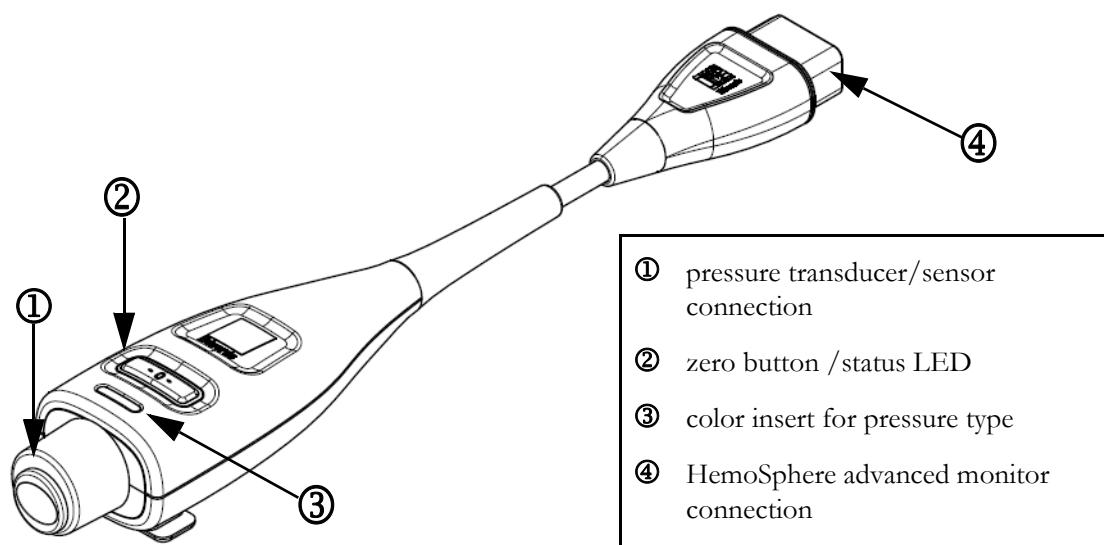

Figure 10-1 HemoSphere pressure cable
The HemoSphere pressure cable acquires and processes a single pressure signal from a compatible Edwards disposable pressure transducers (DPT), such as the TruWave DPT, or a FloTrac sensor. A FloTrac or Acumen IQ sensor connects to an existing arterial catheter to provide minimally invasive hemodynamic parameters. A TruWave transducer can connect to any compatible pressure monitoring catheter to provide location based intravascular pressure. Refer to the directions for use provided with each catheter for specific instructions on catheter placement and use, and for relevant warnings, cautions and notes. The HemoSphere pressure cable can be monitored through two technology monitoring modes based on the paired sensor/transducer: **FloTrac** or **Acumen IQ** sensor monitoring mode or **Swan-Ganz** catheter monitoring mode. The monitoring mode appears on the top of the navigation bar (see figure 5-2 on page 80). The appearance and connection points for the HemoSphere pressure cable are shown in figure 10-1.
Pressure Type Color Insert. If desired, the appropriate color insert can be used on the pressure cable to indicate the monitored pressure type. See ③ in figure 10-1 below. The colors are as follows:
- Red for arterial pressure (AP)
- Green for cardiac output (CO)
Press the physical zero button  directly on the pressure cable and hold for three seconds (see figure 10-1).